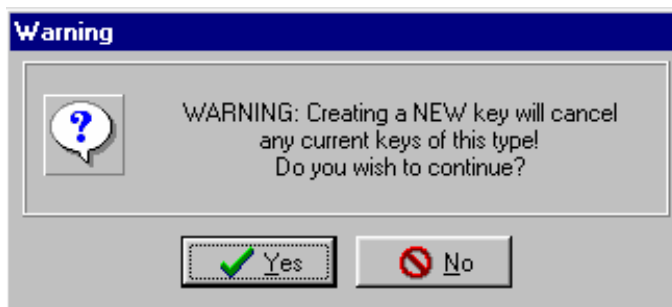

Fig. 6.2 - New Key Warning Dialog Box
**Note:** Whenever the New Key option is selected, a **Warning** dialog box (Fig. 6.2) will appear indicating that creating a New Key will cancel any other keys of the same type. If this is indeed the very first key of this type you are creating, click **Yes** to proceed. Otherwise, click **No** to return to the *Create Master Key* dialog box and select the *Duplicate Key* option.